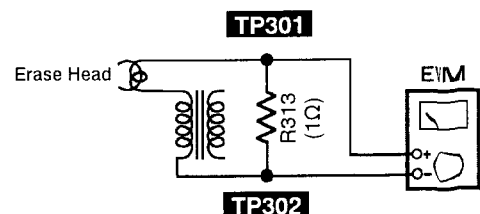

Fig. 7
3. Check if the output at this time between the erase current confirmation point **TP301** and **TP302** (the output on both edged of R313) is within the standard value. (Refer to Fig. 7.)